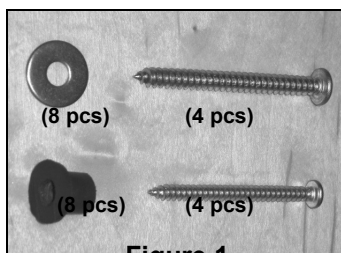
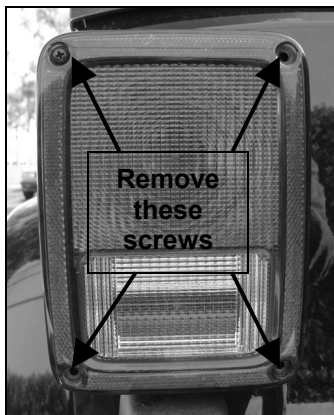

Figure 1
Figure 2
2. Using a Phillips screwdriver remove the screws from the driver side taillight lens (Figure 2). Note that inner factory screws will be replaced by #6 x 45mm Sheet Metal Screws and the outer factory screws with #8 x 50mm Sheet Metal Screws provided in the Hardware Kit. See figure 1.